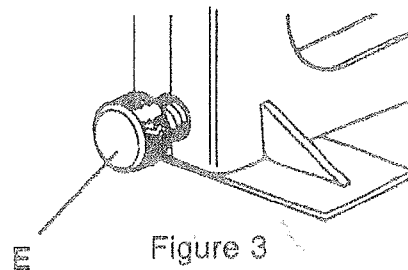

Figure 3
The pressure adjustment (E) will affect the depth of penetration of the point in wood. Although factory settings accommodates most frames, the depth can be increased by turning the knob clockwise and decreased by adjusting it counterclockwise. Figure 3.